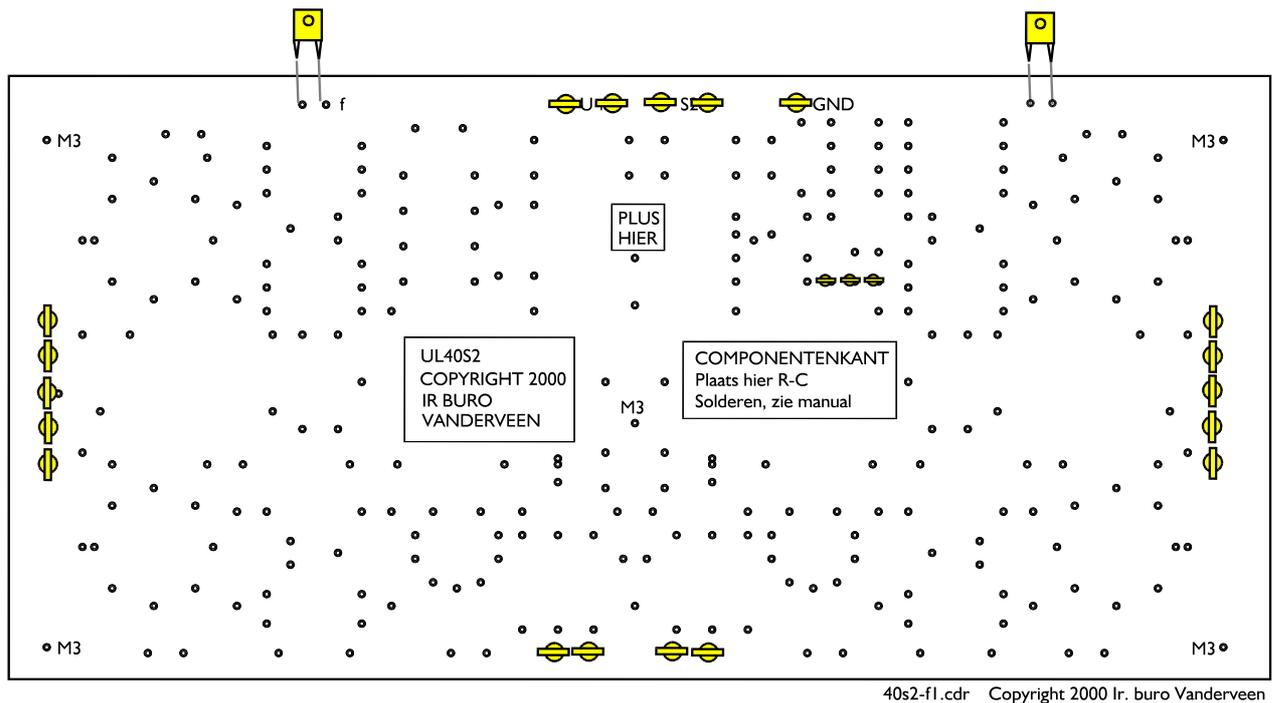

Figure 1
2. First push the 22 small solder terminals into their holes on the **component side** of the PCB using a pair of pliers and align them as shown in figure 1. Solder them into place (to ensure a nice flat surface first bend the pins aside with a knife before soldering. This mounting method provides a strong connection as well as preventing corona discharge from the PCB to the metal cabinet).